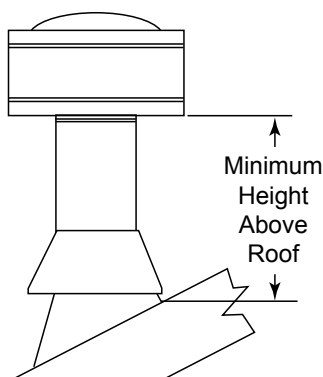

Figure 44 Minimum Height Above Roof Requirements
11. Add lengths of pipe and firestop as necessary until assembly extends to a point above the roof which complies with local code requirements for minimum termination height and with the appliance manufacturer's installation instructions. (Figure 44)